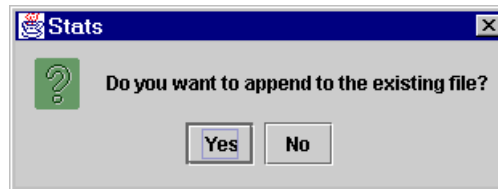

Figure 9-12. Export Adapter Statistics—Append Existing File
3. If you selected an existing file, the **Stats** dialog box displays (see figure 9-12). To append the host statistics to the selected file, click **Yes**.